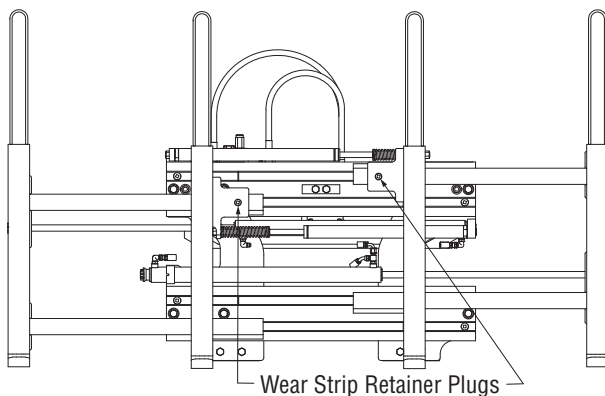

Figure 6-12, Forks Open
3. Turn on the truck's power and extend the forks outside the body. Remove the exposed retainer plugs. The wear strips where the retainer plugs were removed will then be able to slide out. (Figure 6-12)
5. Slide the fork inward until the retainer plug is clear of the fork slide. Remove the retainer plugs by turning them clock-wise with a 3/8" ratchet and extension until the plug clears the threads on the inner fork slide. (Figure 6-12)